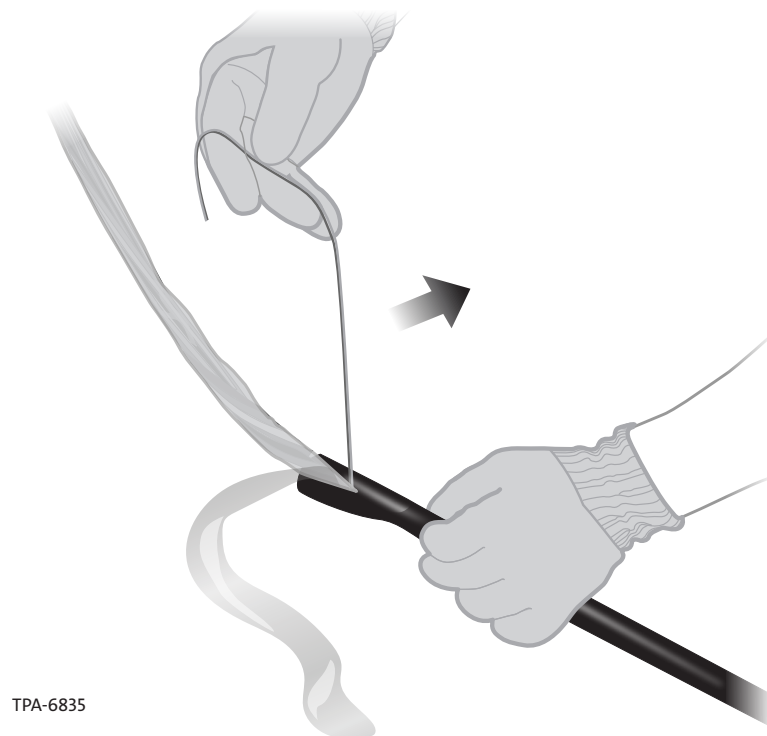

Figure 10
**Step 7:** Pull the rip cord to the ring cut location and remove the thin film (Figure 10).